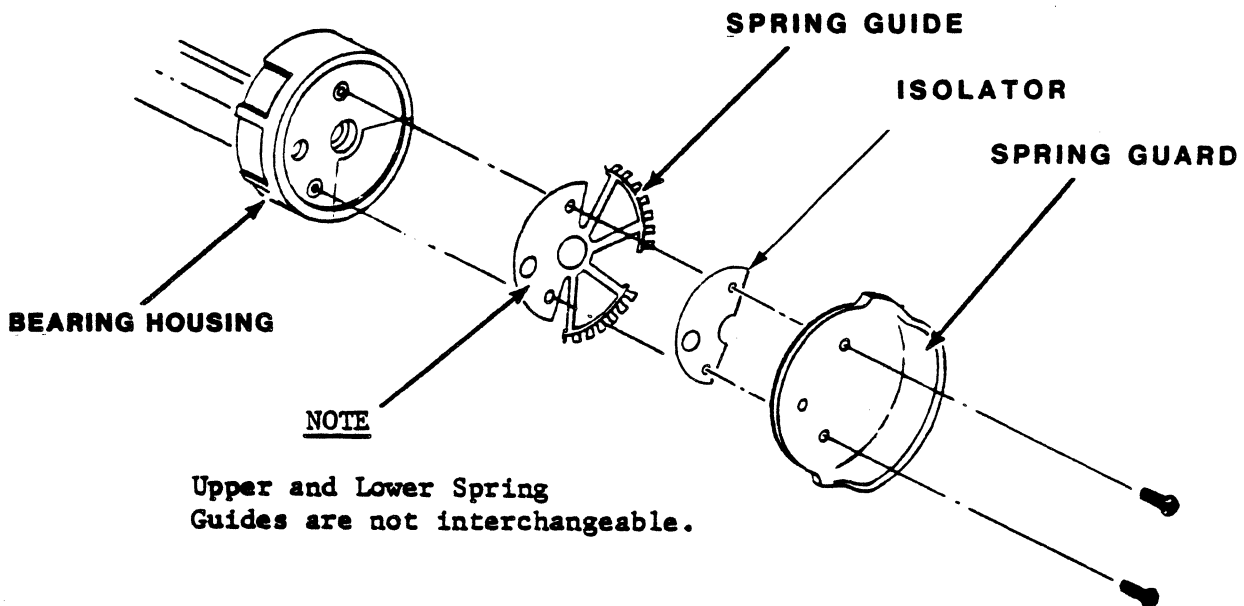

Figure 6-19. Air Bearing Spring Guide
2. Remove two phillips head screws securing upper spring guide, isolator, and guard to bearing housing (see figure 6-19).